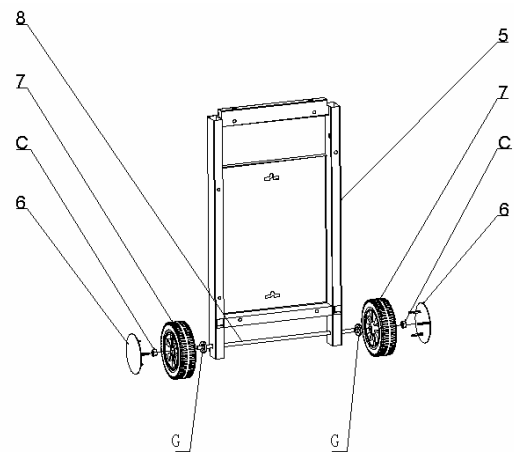

Figure 2.
**NOTE:** Your Gas Grill has been specifically equipped at the factory to burn Propane Gas (LP).
- Use only the pressure regulator propane gas supply coupling and hose that is originally provided with this appliance or as specified, (see Fig.2).
Insert Wheel Axle through holes in the bottom of the Right Cart Leg Assembly, as shown. Fit the Wheel Spacers over the end of the Axle as shown. Fit the wheels onto each side of the axle. Secure the wheels in place on the axle with Wheel Nuts, and tighten wheel nuts with the Wheel Nut Wrenches supplied. Reinstall the Wheel Caps on the wheels. See Figure 2.